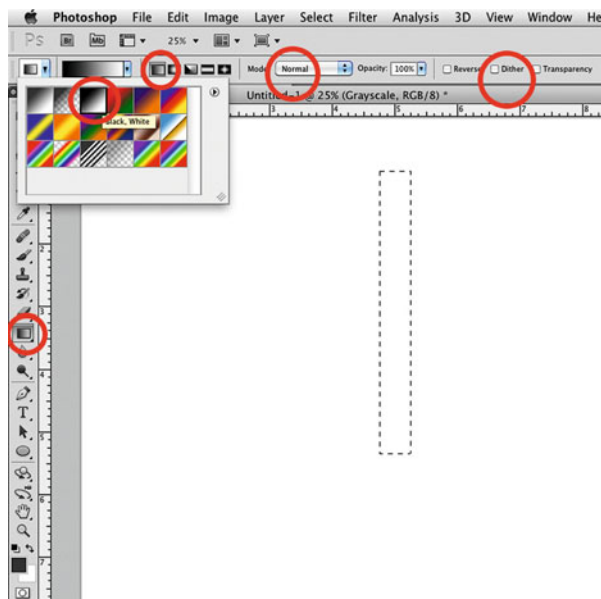

FIGURE 3.20 Selections and options for creating a black-and-white grayscale gradient in Adobe Photoshop.
- Select the **Gradient Tool** from the toolbar, which shares a spot with the Paint Bucket tool, as shown in Figure 3.20.
- Select the **Black, White** gradient, the **Liner** gradient, the **Normal Mode** and make sure **Dither** is NOT checked, as also shown in Figure 3.20.